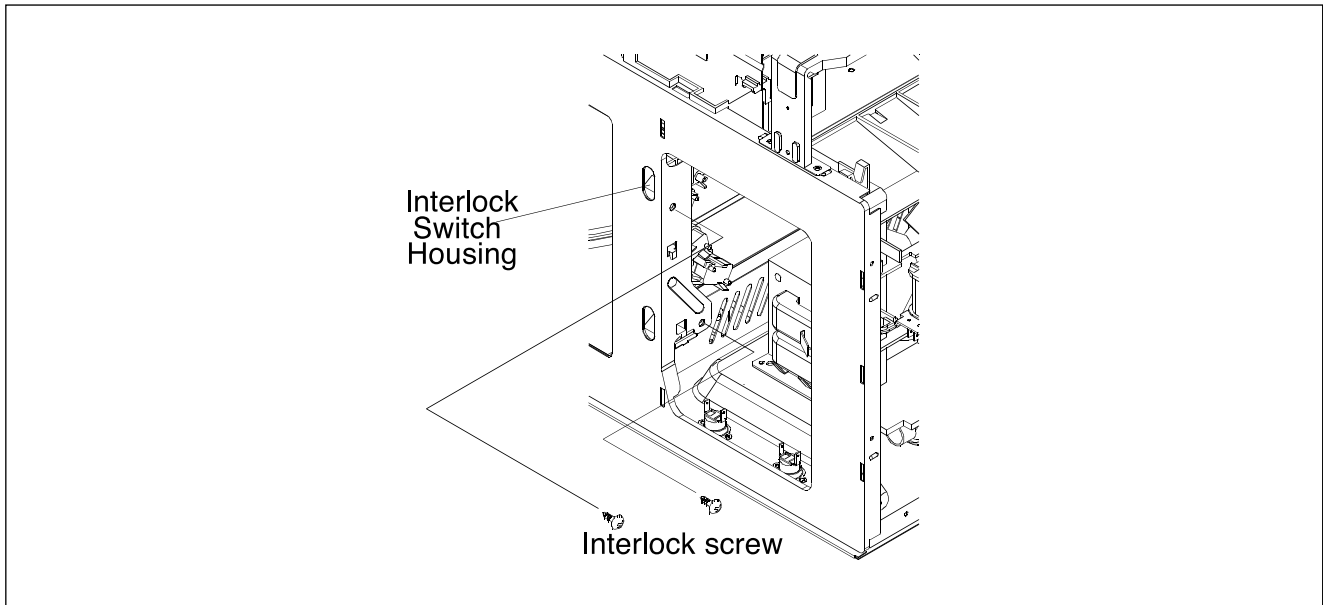

FIG. 7
Refer to FIG. 7 for the following steps:
10. Mount the interlock switch assembly to the chassis flange with two screws (See FIG. 7).